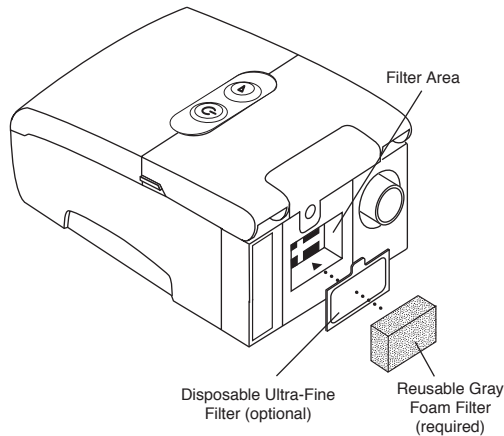

FIGURE 3–1 INSTALLING THE AIR FILTER
2. Insert the gray foam filter into the filter area as shown in Figure 3–1.